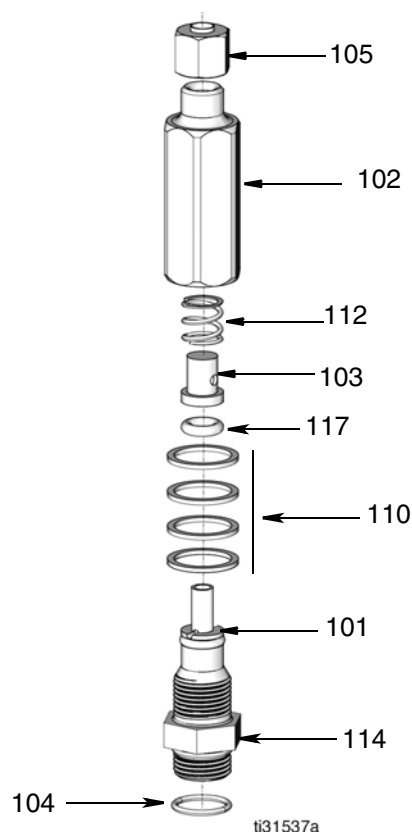

FIG. 36
Grease injectors are used to provide precise lubrication to each grease point in the system. If an injector is not producing the correct amount of lubricant for a specific location on the vehicle or if a replacement injector of correct size is not available, output spacer washers (110) can be installed to adjust the injector's output volume (FIG. 36, page 44).
3. Use a 5/8 inch wrench to loosen and separate the injector body (102) from the valve assembly (114). Be careful not to misplace or damage the spring (112), retainer cap (103) and o-ring (117) (FIG. 36, page 44).
- Add spacers (110) to increase output volume.
- Remove spacers (110) to decrease output volume.
5. Reassemble injector valve assembly. Be sure all parts removed during disassembly are reinstalled in the correct order as shown in FIG. 36 (page 44). Use a 5/8" wrench to tighten using only enough force to seat output spacers firmly (110). Torque to 7.8 ft-lb (10.6 N•m).
6. Install injector (101) onto manifold (119/120). Slide a deep well socket over the injector and aligned with the hex nut flats (114) (FIG. 36, page 44). Torque to 7.8 ft-lb (10.6 N•m).